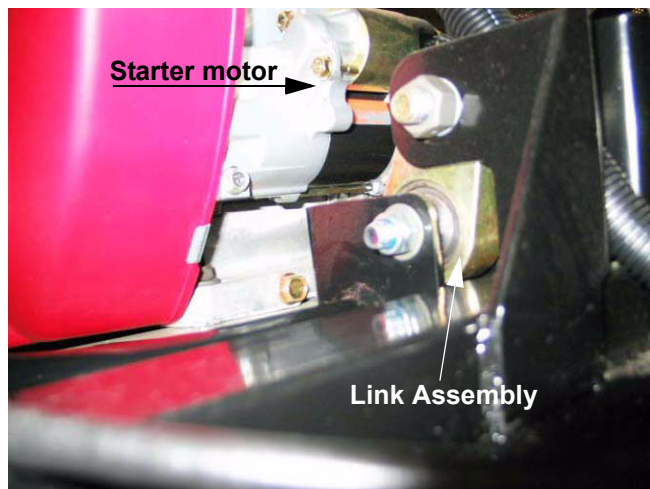

Figure 9.1
- 9.1. The link assembly (aka: dogbone joint) connects the engine and transaxle cradle to the frame of the Big Country. This joint locates the front of the cradle, yet allows enough freedom of movement that the cradle can swing up and down and pivot axially to accommodate suspension travel. See Figure 9.1.